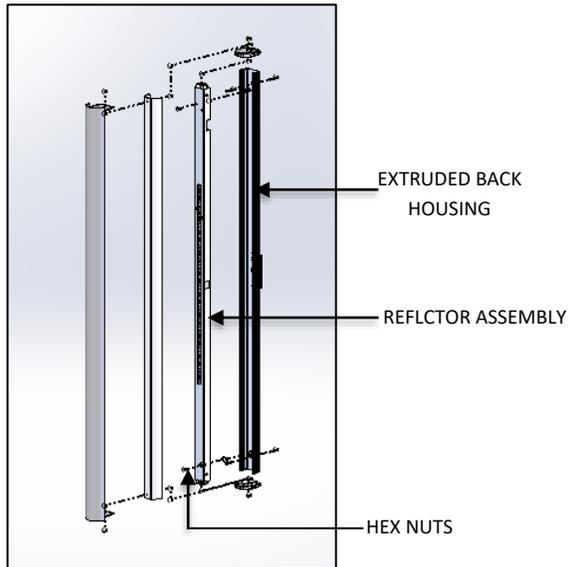

FIG.7- DISASSEMBLY OF REFLECTOR
- Unscrew the two #8-32 HEX NUTS and remove the REFLECTOR ASSEMBLY from the EXTRUDED BACK HOUSING as shown in FIG.7.